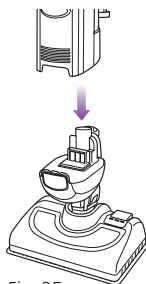

Fig. 25
- 1 Place the main unit on top of the steam nozzle and press down to make sure that the steam nozzle is firmly secure to the main body. (Fig. 25) You will hear an audible click when the two parts are attached correctly.